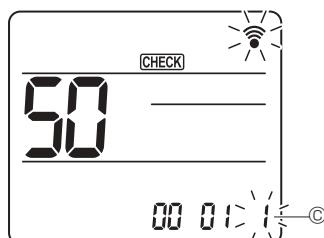

Fig. 7-20
- ④ Selecting the setting number
- Use the **[▼]** button to change the Setting number ⑥. (Fig. 7-20)
- ⑤ To select multiple functions continuously
- Repeat select ③ and ④ to change multiple function settings continuously.
- ⑥ Complete function selection